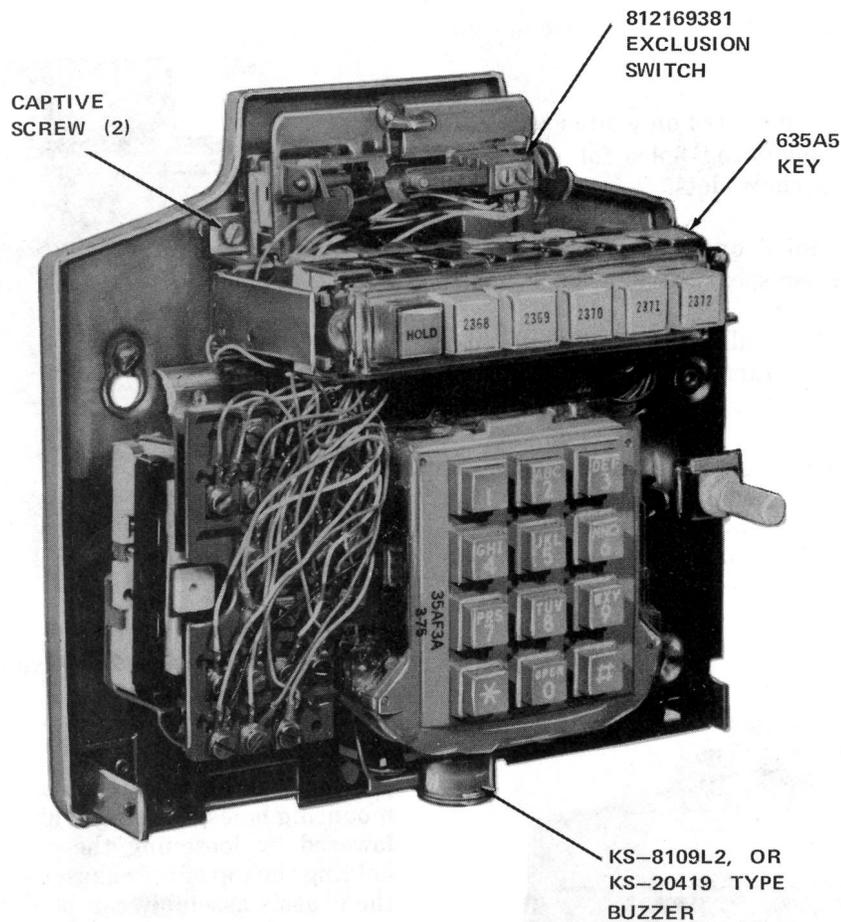

Fig. 5—2851CM Telephone Set With Exclusion (Housing Removed)
- (2) Position switch assembly horizontally (Fig. 5 or 13) and fasten securely.